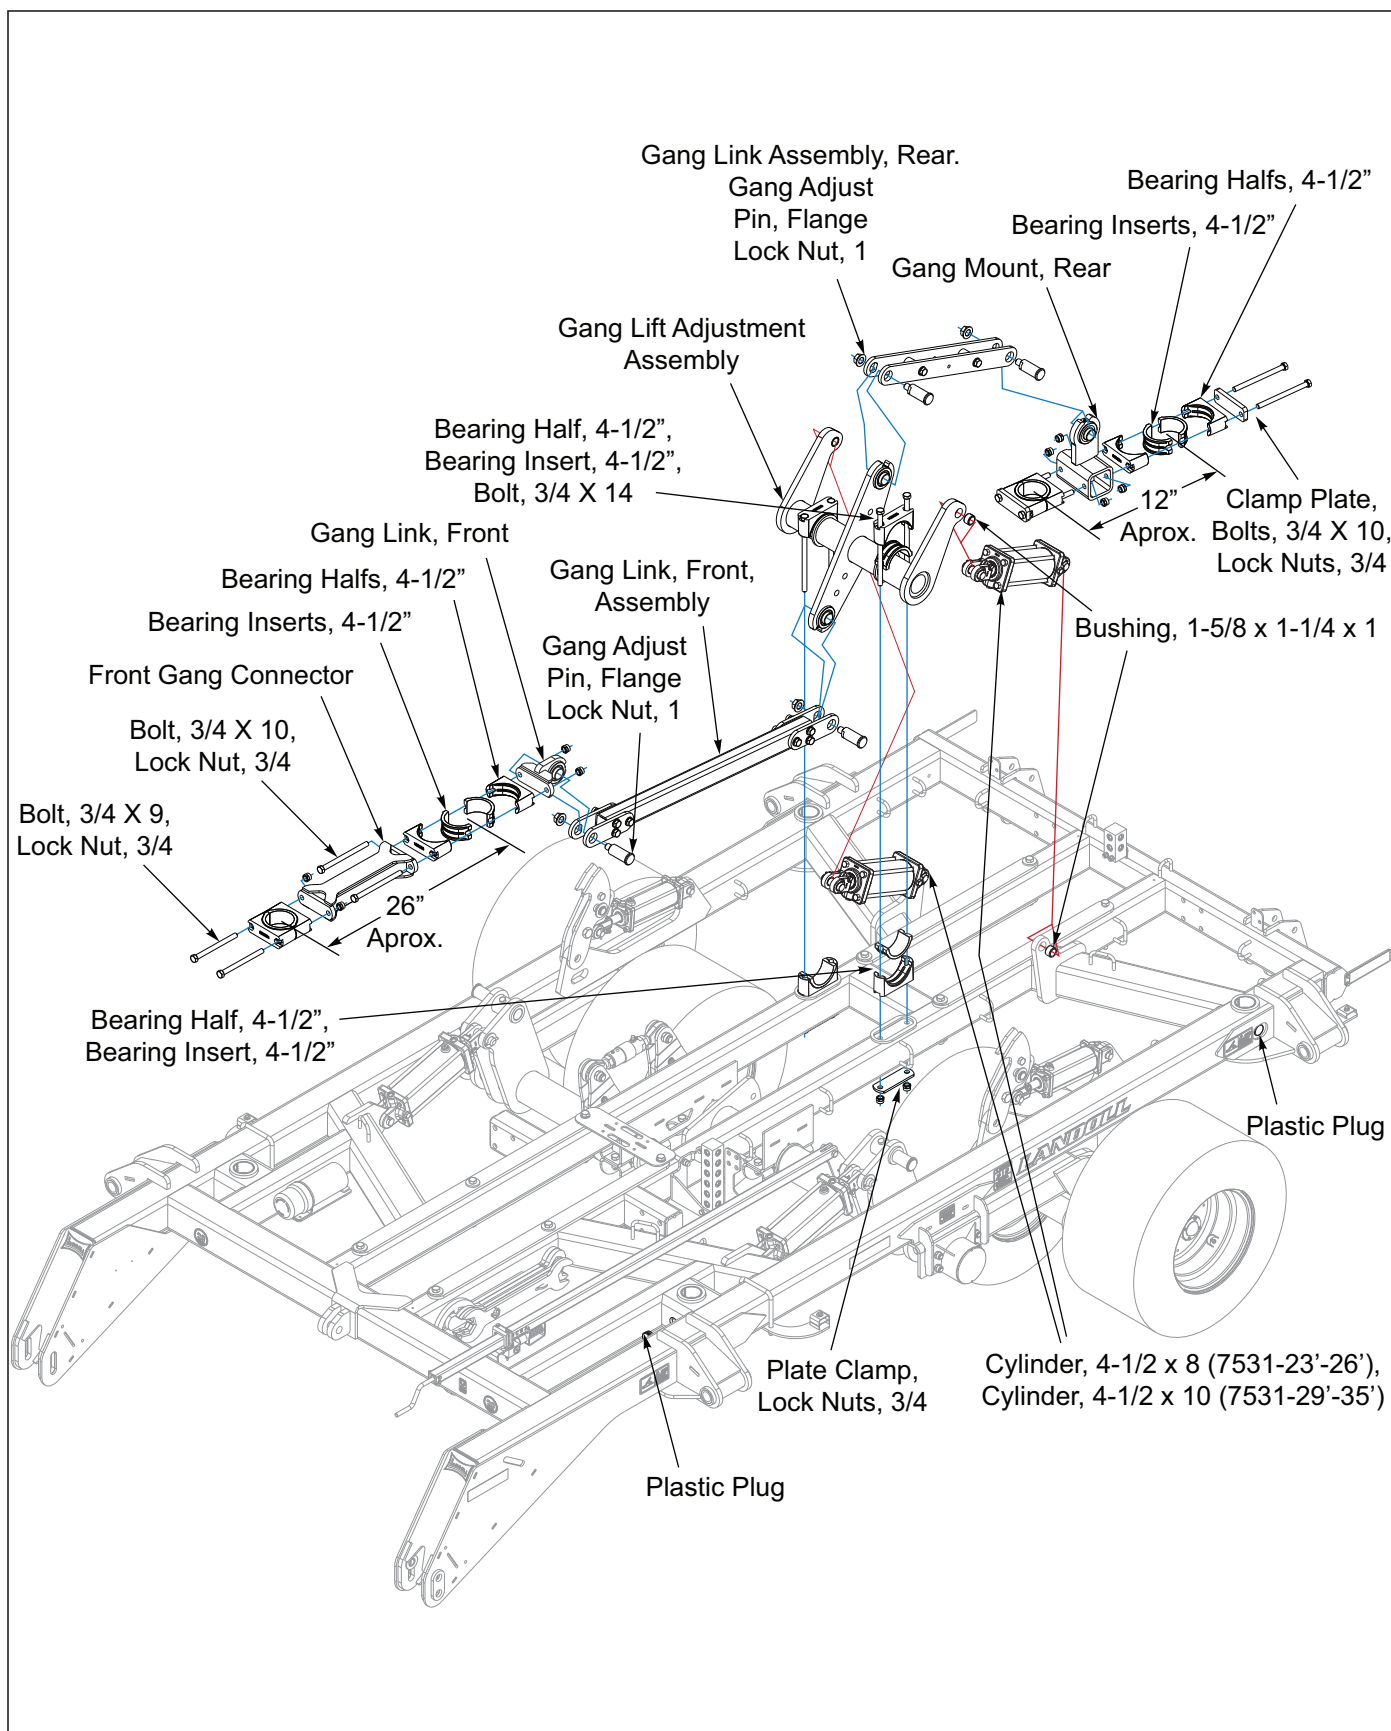

Figure 3-36: Center Gang Adjust Installation
1. Install the left front disc gang assembly by moving disc gang assembly to proper frame position (**See Figures 3-36.**) Install gang pivot pin through gang pivot tube of gangbar, there are notches that will need to be aligned so the pin will not rotate in the gang bar. Install the 3" stainless steel thrust washer over the gang pivot pin, and pin will go on through the gang pivot mount welded to the center frame. Install the 2" diameter blue steel washer to the threaded end of the gang pivot pin along with the stainless steel thrust washer and gang pivot nut. If the top bushing in the center frame pivot comes out a little while the pin is going through, just put the gang pivot nut on and hand tighten down to press it back into place. Next loosely install the gangbar slide on top of the center frame slide pads along with the blue washer with a 1-13/16" diameter hole and 1-3/4" slotted nut in the middle of the center frame to keep the end of the gang from falling.
4. The front gangs have a distance of 26" from center to center of the gangbar pivot shafts sticking up, move gangs to where this is close and the gangs are close to the front of the machine as shown in (**See Figures 3-36.**) Assemble the front bearing halves and insert the 3/4-10 x 9" bolts through the front connector. Assemble the rear bearing halves and insert the 3/4-10 x 10" bolts through the connector and into front link weldment that is already on the frame assembly. Tighten these four bolts alternating sides to tighten the cast bearings up evenly. With both bearings tight install 1 stainless steel washer or 2 on top of the bearing inserts and reinstall the gang bar slides, blue washers with 1-13/16" diameter hole and slotted nuts.